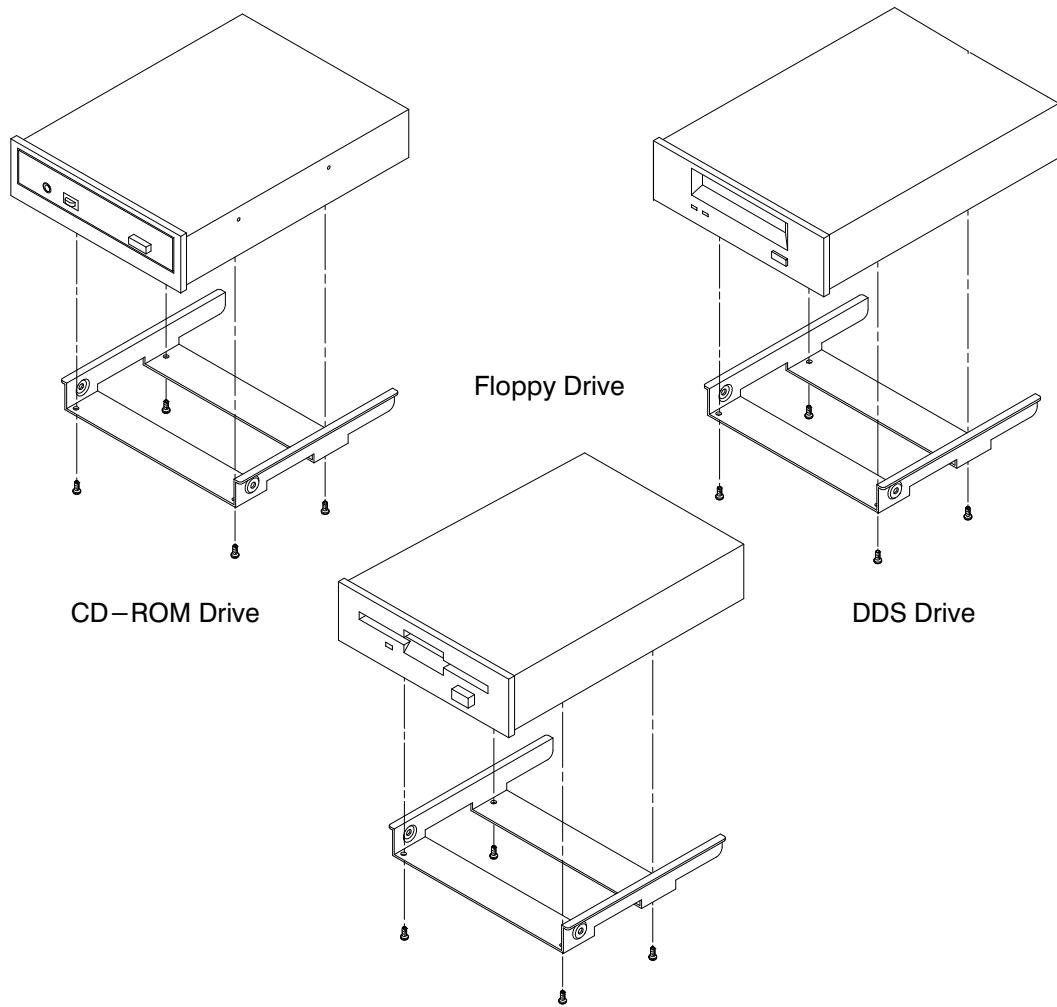

Figure A-12. Attaching Removable Drive Mounting Bracket and Drive Orientation
10. Figure A-12 shows the orientation of each of the removable media drives in the bracket and the position of the screws holding the drive bracket in place. The same bracket can be used on all three drives.